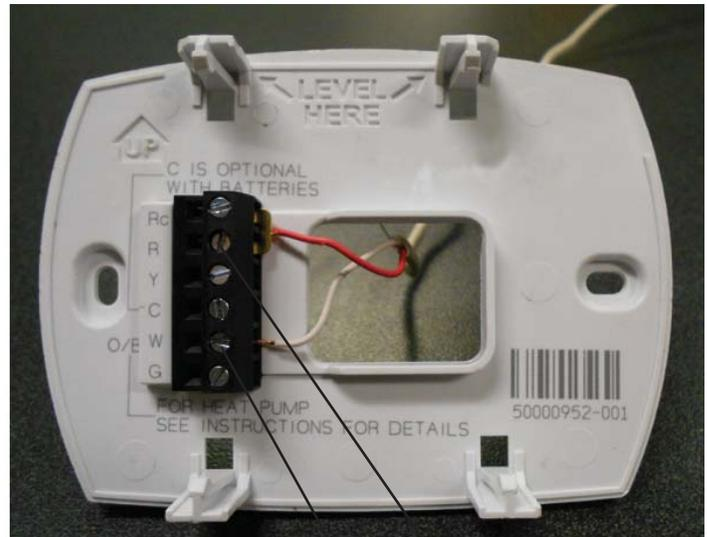

Figure 27.1
2. Connect your thermostat wire to the W and R terminals (see **Figure 27.1**)